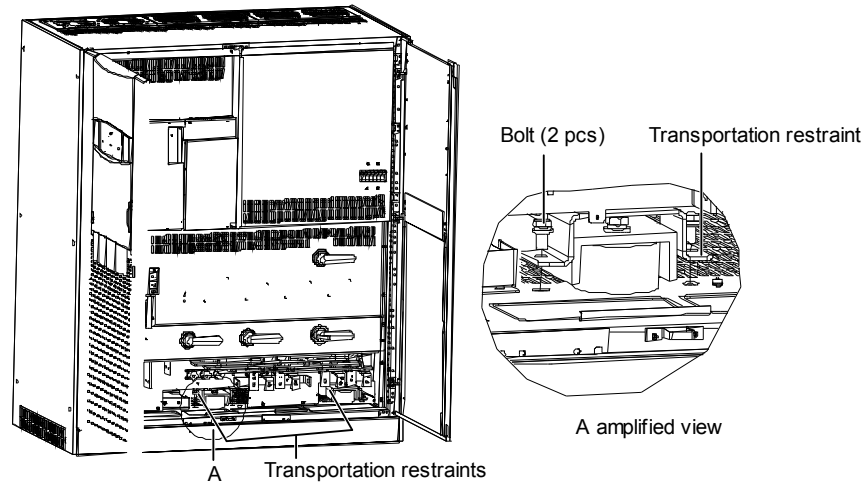

Figure 9 Removing the two transportation restraints in the front
3. Remove the two transportation restraints in the front of the output transformer, as shown in Figure 9.